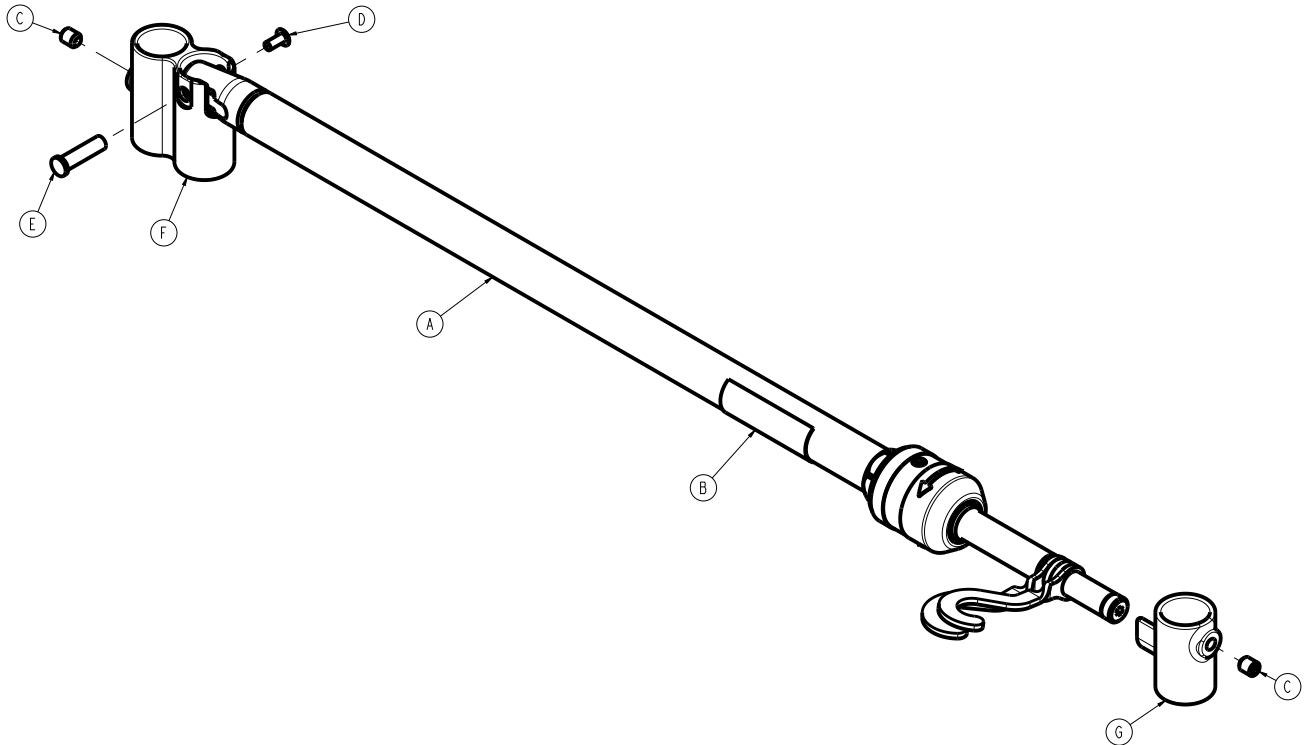

Figure 54 – Attaching the single IV pole
7. Using a 5/32" hex wrench, tighten the set screw (C) to secure the IV receptacle (F) to the bed IV post (Figure 54).
8. Attach the IV rest (G) on the opposite side, so that the IV pole (A) sets into the IV rest (G).
9. Using a 5/32" hex wrench and a tape measure, tighten the set screw (C) to secure the IV rest (G) to the bed IV post (Figure 54).